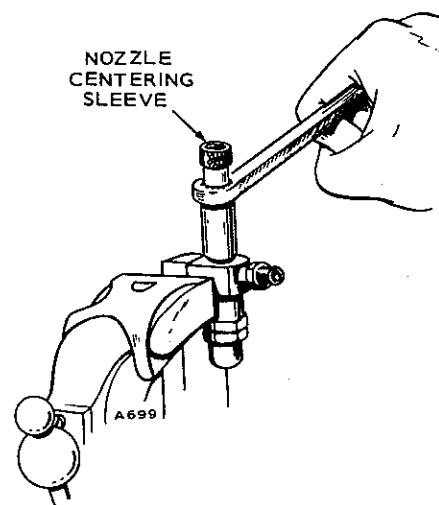

FIGURE 9-17. TIGHTEN NOZZLE
5. Place centering sleeve over nozzle (Figure 9-17) for initial tightening and then remove centering sleeve to prevent it from binding between nozzle and cap nut.